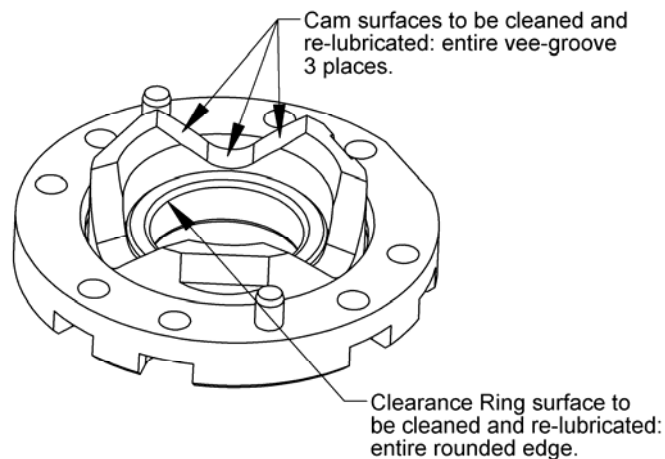

Figure 5.4—Cleaning and Re-lubricating the Cover Plate Assembly
CAUTION: Do not adjust or remove either of the two (2) set screws installed in the wall of the Body. Doing so may result in damage to the unit or failure of the switch to operate. See Figure 5.4.
3. Clean the lubricant from the working surfaces of the Cam and the Clearance Ring. Set the Cover Plate assembly aside for later re-use (see Figure 5.4).
3. Apply a generous coat of Moly Grease to each of the three (3) v-grooves in the Cam and to the rounded edge of the Clearance Ring (see Figure 5.4).